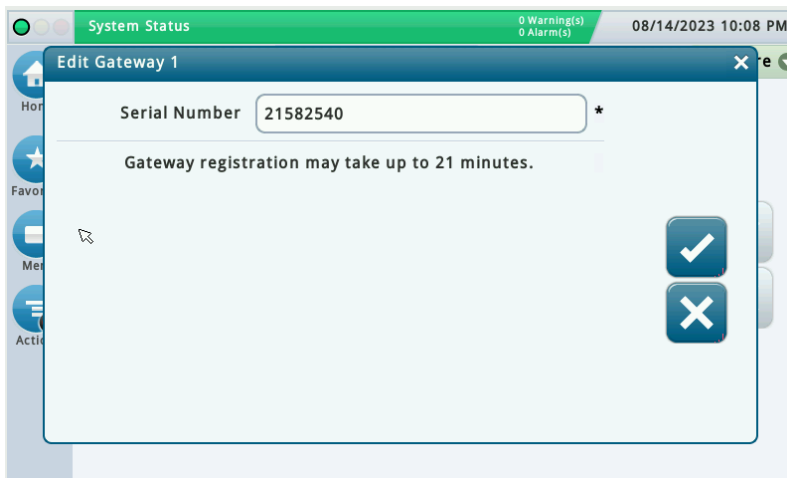

Figure 20. Edit Gateway Screen
6. Erase the Serial Number for the replaced Gateway and enter the Serial Number for the replacement Gateway (see Figure 20).